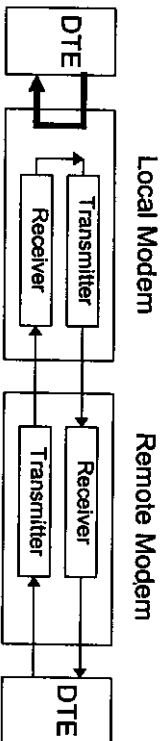

Figure 15. Local Digital Loopback Test
- **Local Digital Loopback (LDL)** - This test allows you the check the connection of the modem to the DTE (Figure 15). Data received from the line is returned to the remote modem. A successful LDL test means that the DTE and connections are working properly.